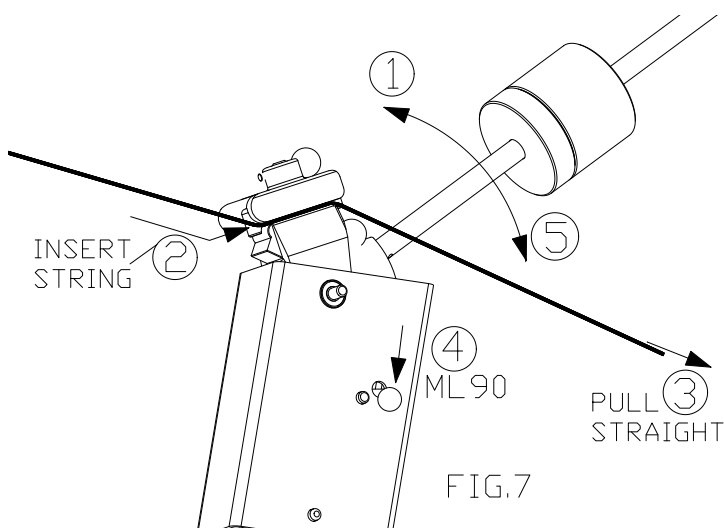

FIG.7
* To insert the string in the string clamp (Fig.7).